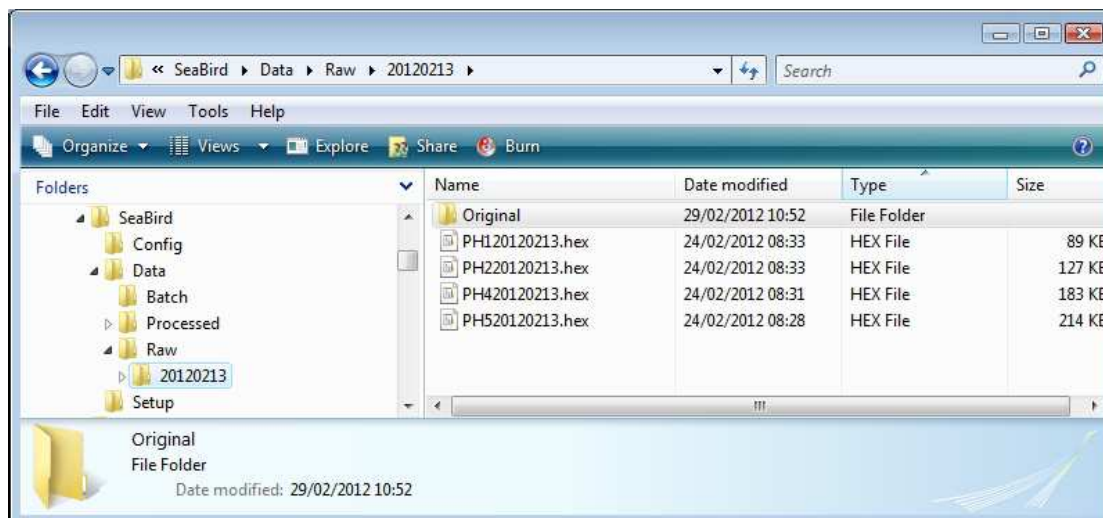

Figure 1.2 Example of folder setup to be used to facilitate batch processing in Windows Explorer with HEX files downloaded from the SeaCat 19+.
- S1.2 Choose the SELECT OUTPUT VARIABLES button in the DATA SETUP window. Set up the variables to be output from the conversion of raw voltages to SI unit variables using according to FIGURE 1.2. Search from the range of SeaBird output types from the right hand menus and ADD them individually to the left hand list of VARIABLES.